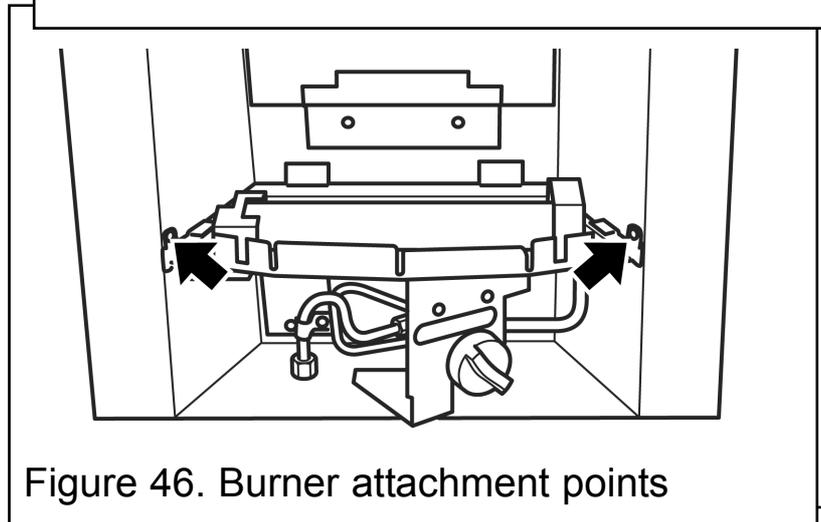

Figure 46. Burner attachment points
4. Detach the burner unit from the hotbox by removing two screws – See figure 46.